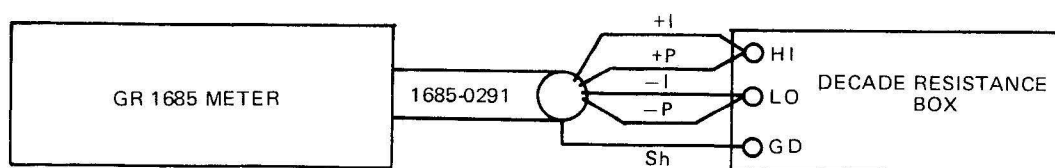

Figure 5-3. Dc calibration and range accuracy test setup.
a. Connect a decade resistance box to the 1685-0291 cable, connected to the 1685, in a 4-terminal connection as shown in Figure 5-3.